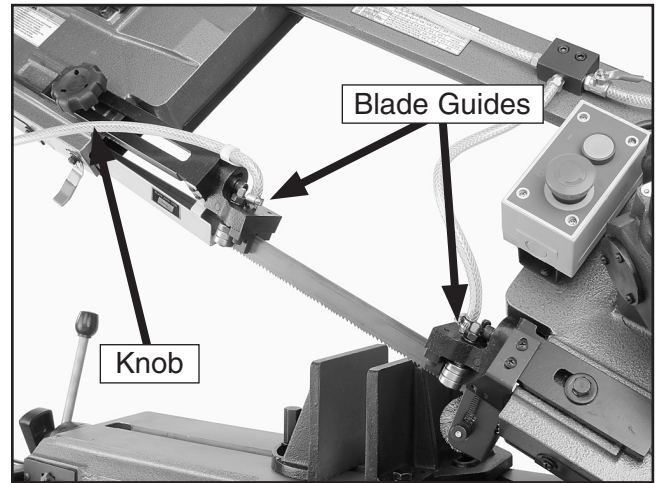

Figure 19. Blade guides.
1. Loosen the knob shown in **Figure 19** and slide the rear blade guide as close to the workpiece as possible, then tighten the knob.